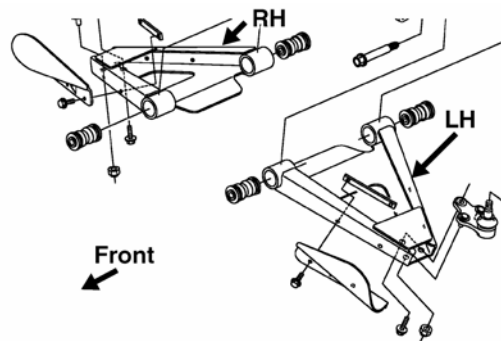

Figure 2
2. Install Stoppers using the two existing 7mm holes on the trailing side of the Lower Front Arm (A-arm) as shown in Figure 2.